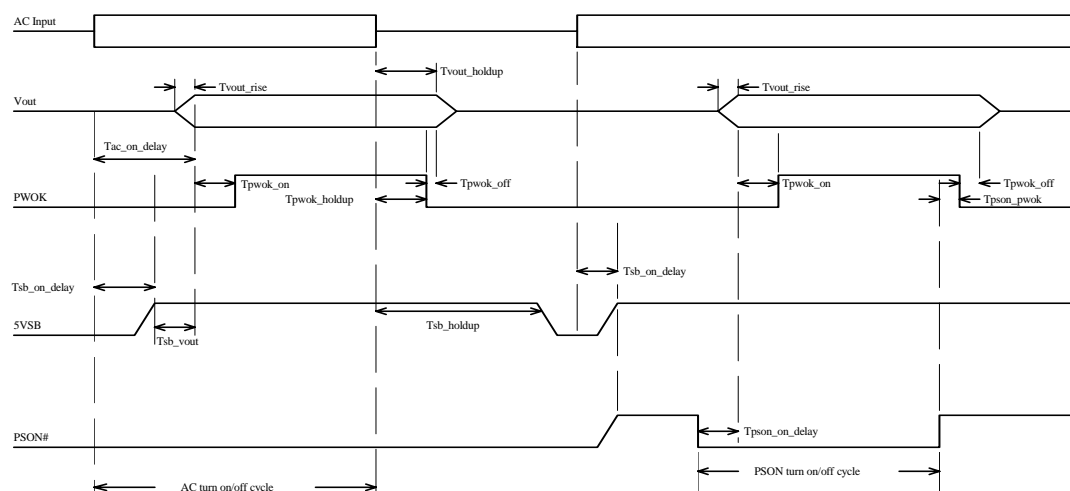

Fig.1
5.3 Power off sequence (see Fig. 1)
6.1 Power good signal (see Fig. 1)